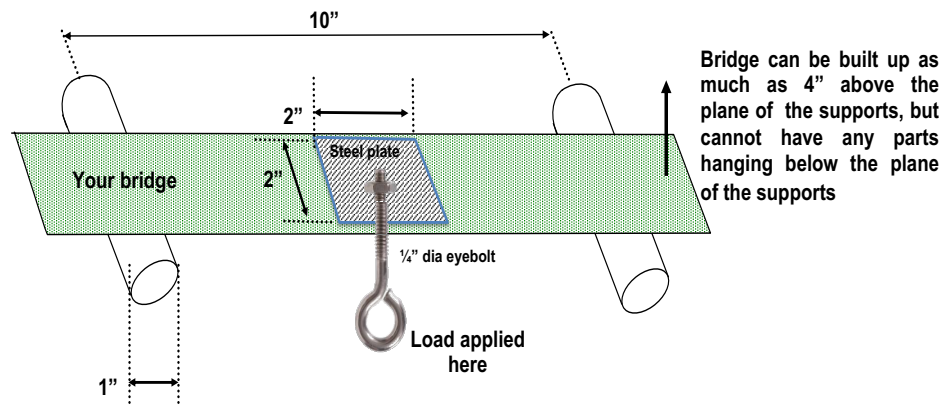

Figure 27. Diagram of bridge testing apparatus
3. The bridge must be able to span a gap of 10 inches between two steel pipes, each 1 inch in diameter (see Figure 27). The bridge cannot have any structure below the plane of the top of the pipes. Loads will be applied by suspending a bucket below the center of the bridge from a 2 inch x 2 inch steel plate fitted with a 1/4" diameter eyebolt and slowly filling the bucket with sand until the bridge fails. The application plane for this steel plate must be no more than 4 mm above "ground level" (defined as the plane passing through the tops of the two support pipes); in other words, your support underneath the plate must be no thicker than 4 mm as measured from the bottom of your bridge.